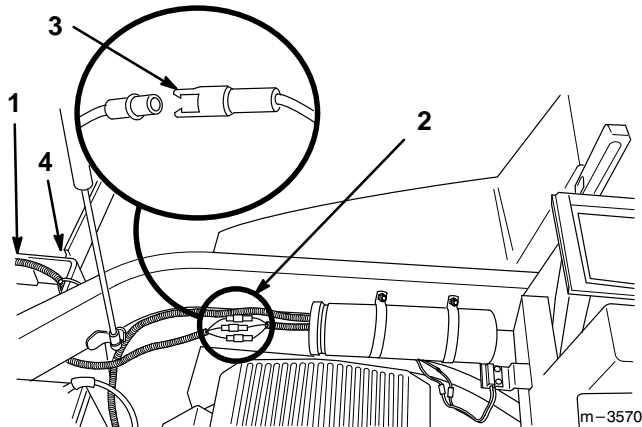

Figure 17
- Route hopper full sensor wire harness below bumper and frame. Connect hopper full sensor wire harness terminals to (3) round terminal of main wire harness (Fig. 17).
- Push terminals together firmly so latches lock (Fig. 17).
- Install wire tie around bumper to hold sensor wire harness (Fig. 17).